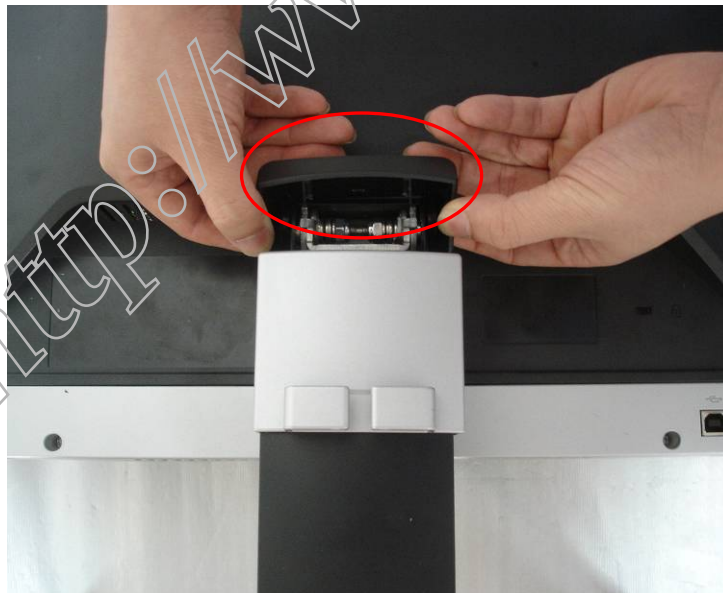

Fig.2
2. Remove hinge cover as Fig.2.
Remove the hinge cover as Fig.2